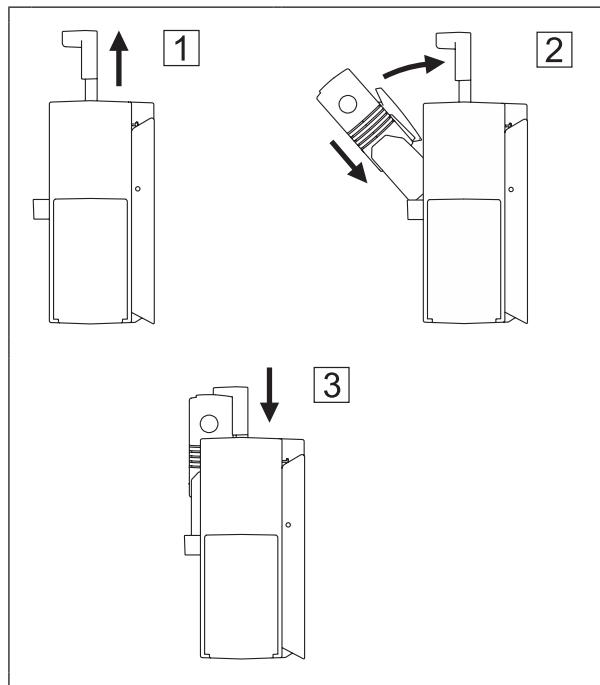

Fig. 14: Placing the device in the test set
1. Pull the locking mechanism upwards as far as it will go (fig. 14 [1]).
Tilt the device backwards (fig. 14 **[2]**).
3. Push the locking mechanism down completely (fig. 14 **[3]**).